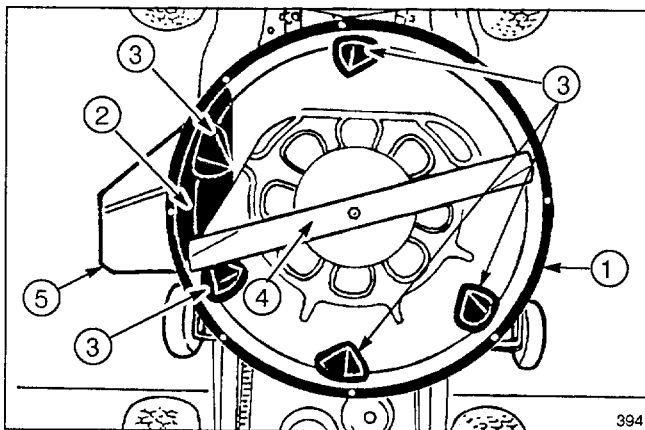

Figure 8
To side discharge or use bagging attachment, remove the wingnut and metal tab securing the plastic discharge cover to the grass deflector and mower housing. **NEVER REMOVE THE GRASS DEFLECTOR FROM THE MOWER HOUSING (Fig. 8).** Save the discharge cover, wingnut and metal tab for possible future reinstallation.
**NEVER** remove the grass deflector (Fig. 8) from the mower housing. If the discharge cover under the grass deflector is removed in order to side discharge or bag, the grass deflector routes discharged material down toward the turf. If the deflector is ever damaged, replace it. Without the deflector or complete grass catcher assembly mounted in place, discharged material could cause personal injury or blade contact could occur.
The rider is equipped with special parts (Fig. 8) which increase your rider's ability to cut and recut grass clippings, leaves, and other yard debris into tiny particles which are injected down into the grass. These parts are:
Never remove the grass deflector (Fig. 8) from the mower housing. If the discharge cover under the grass deflector is removed in order to side discharge or bag, the grass deflector routes discharged material down toward the turf. If the deflector is ever damaged, replace it. Without the deflector or complete grass catcher assembly mounted in place, discharged material could cause personal injury or blade contact could occur.